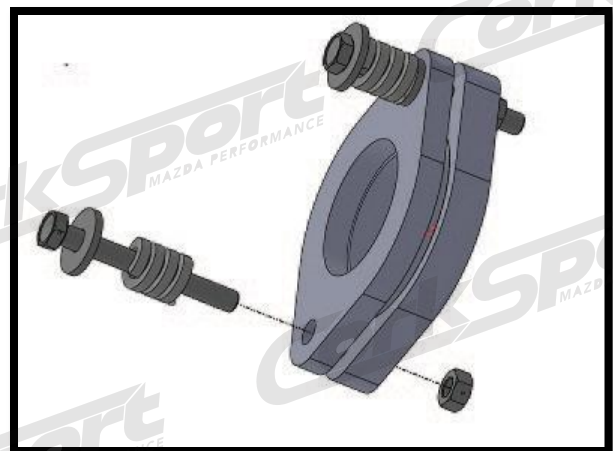

Figure 3b
E) Install the provided M10 bolts and washers into the rear flange of the catted down pipe, reusing the factory springs, and tighten them. See **Figure 3b** for an illustration of the hardware stack up. Tighten the springs so there is a 1mm gap between the coils. This allows the exhaust to flex and absorb engine movement.